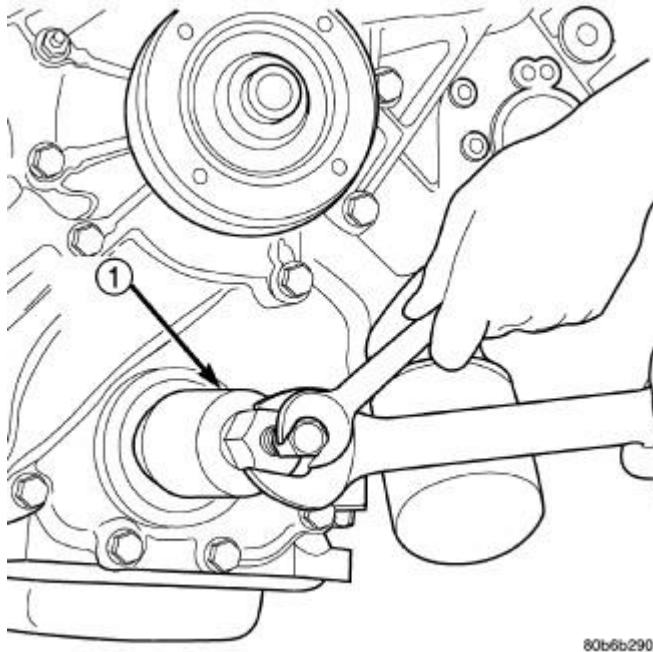

Fig. 110: Crankshaft Front Seal Removal
11. Using Seal Remover (special tool #8511, Remover, Seal), remove crankshaft front seal (1). Refer to **Fig. 110**.